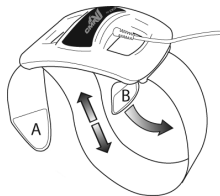

Figure 1
1. Remove Velcro tab "A" and loosen strap. (Figure 1)
6. To tighten or loosen the strap, remove and reposition Velcro tab "A". Adjust strap until it feels comfortable and secure. (Figure 1)